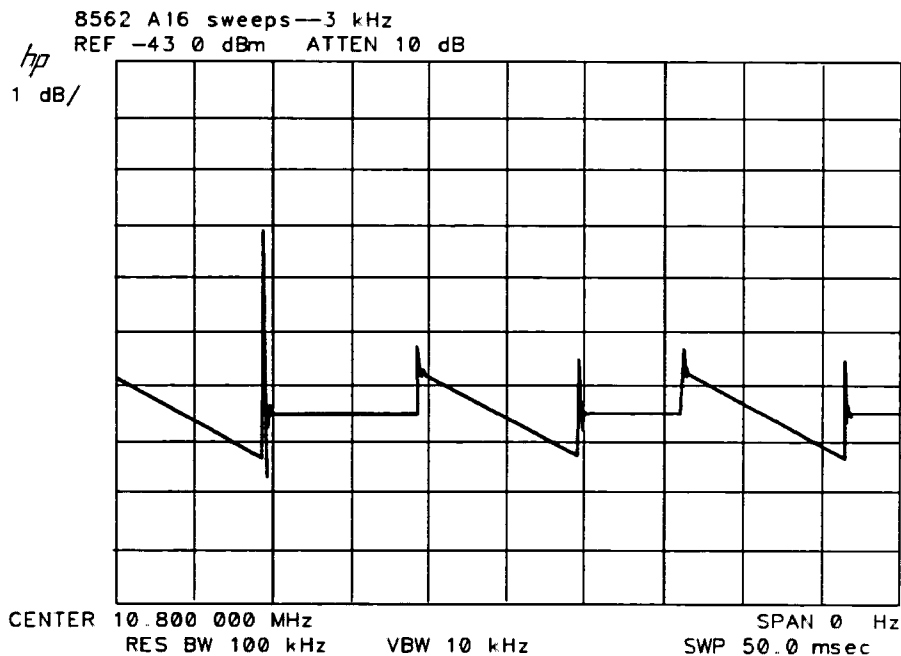

Figure 9-17. Output Waveform, 3 kHz RBW
9. Figure 9-17 illustrates normal operation. Severe failures (slope error >30%) and subtle 3 kHz Resolution Bandwidth errors (<30%) indicate a problem with A16U7, U11, and U12.